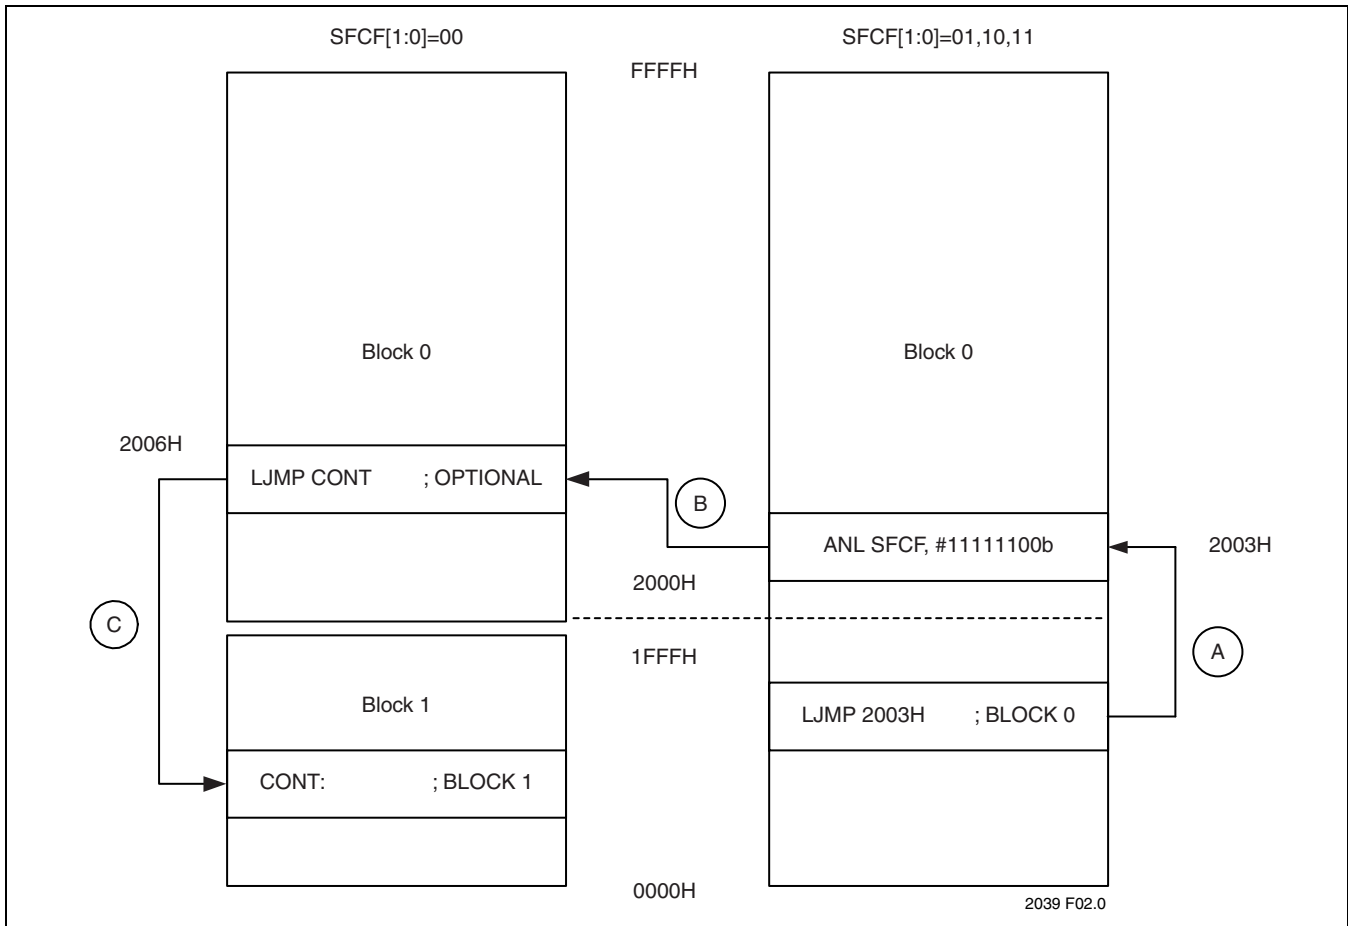

FIGURE 2-2: Switching On Block 1 on the SST89E/V516RDx
Figure 2-2 demonstrates different ways that Block 1 may be switched on. To switch on Block 1, a jump instruction (A) must be used if code is executing below address 2000H to jump to an instruction above 2000H. Then the BSEL and SWR bits may be safely cleared to switch (B) Block 1 on. The subsequent instruction (C) may optionally jump back to Block 1 that is now visible.